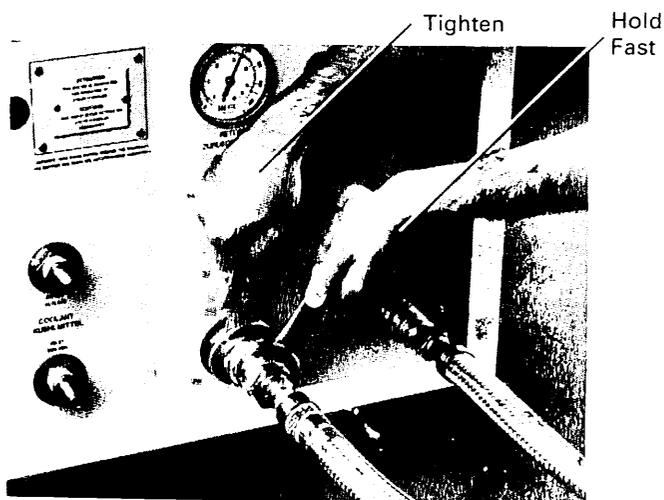

FIGURE 4.4 PROPER CONNECTION OF AEROQUIP COUPLINGS
WARNING: WHEN CONNECTING OR DISCONNECTING THE AEROQUIP COUPLINGS FOR THE GAS FLEX LINES, ALWAYS USE TWO WRENCHES AS SHOWN IN FIGURE 4.4.
5. To make the connection, start by turning the female, hose-side union nut onto the male connector by hand. Then, with the wrenches supplied in the Accessory Kit, hold the stationary part of the female coupling while turning the union nut with the other wrench. See Figure 4.4.